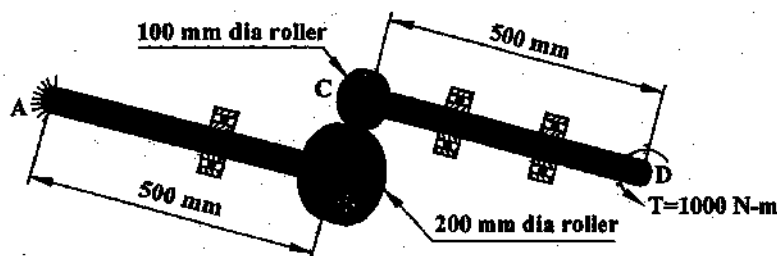

Figure 5
(5) The torque  $T$  is to be transmitted through the roller-shaft system without slippage between the rollers, as shown in Figure 5. The shafts AB and CD are of equal diameter and made of steel ( $G=70$  GPa). If the angle of twist at the end D of the shaft CD is  $1.5^\circ$  then determine the diameter of the shafts and the maximum value of the shear stress in the shaft AB. End A is fixed.